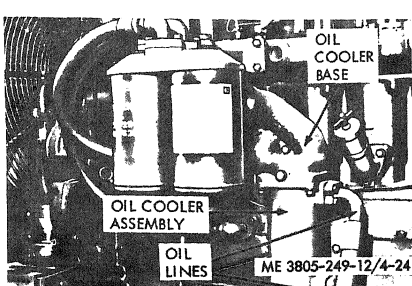

Figure 4-24. Oil cooler.
a. Removal. Refer to figure 4-24.
- (1) Disconnect the oil inlet line and oil outlet line. Cap or plug openings.